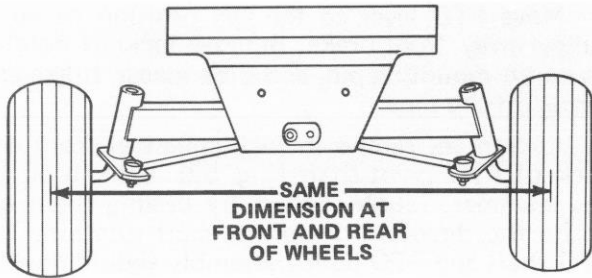

Figure 53
2. Loosen the jam nuts on both tie rods. Adjust both tie rods until center-to-center distance at front and back of rear wheels is the same (Fig. 53).